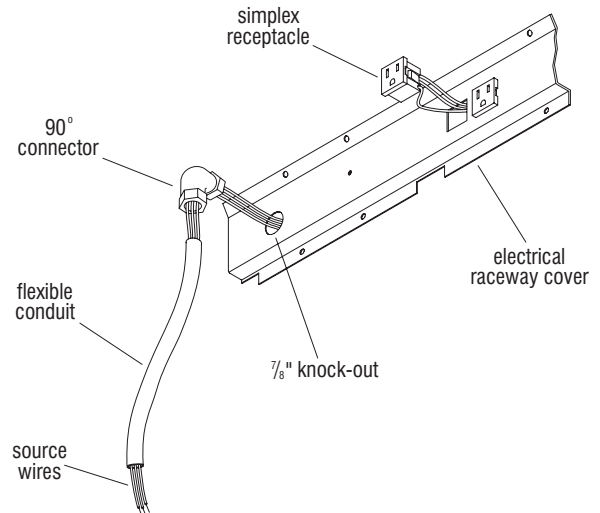

Figure 2
1. Remove the $\frac{7}{8}$ " knock-out at the appropriate end of the hardwired electrical raceway cover. Attach a 90° connector to the raceway cover at the knock-out and attach the length of flexible conduit to the connector. Make required wiring to simplex receptacles, snap the receptacles into the raceway cover and feed the source wires through the 90° connector and flexible conduit. (Figure 2).